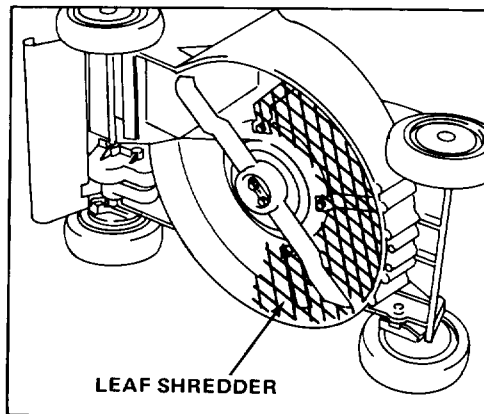

Figure 25
3. **Leaf Shredder Kit, Model No. 59180**—Installs on underside of mower in minutes without requiring removal of blade. Shreds leaves into small pieces for clean vacuuming into grass bag and convenient disposal (Fig. 25).